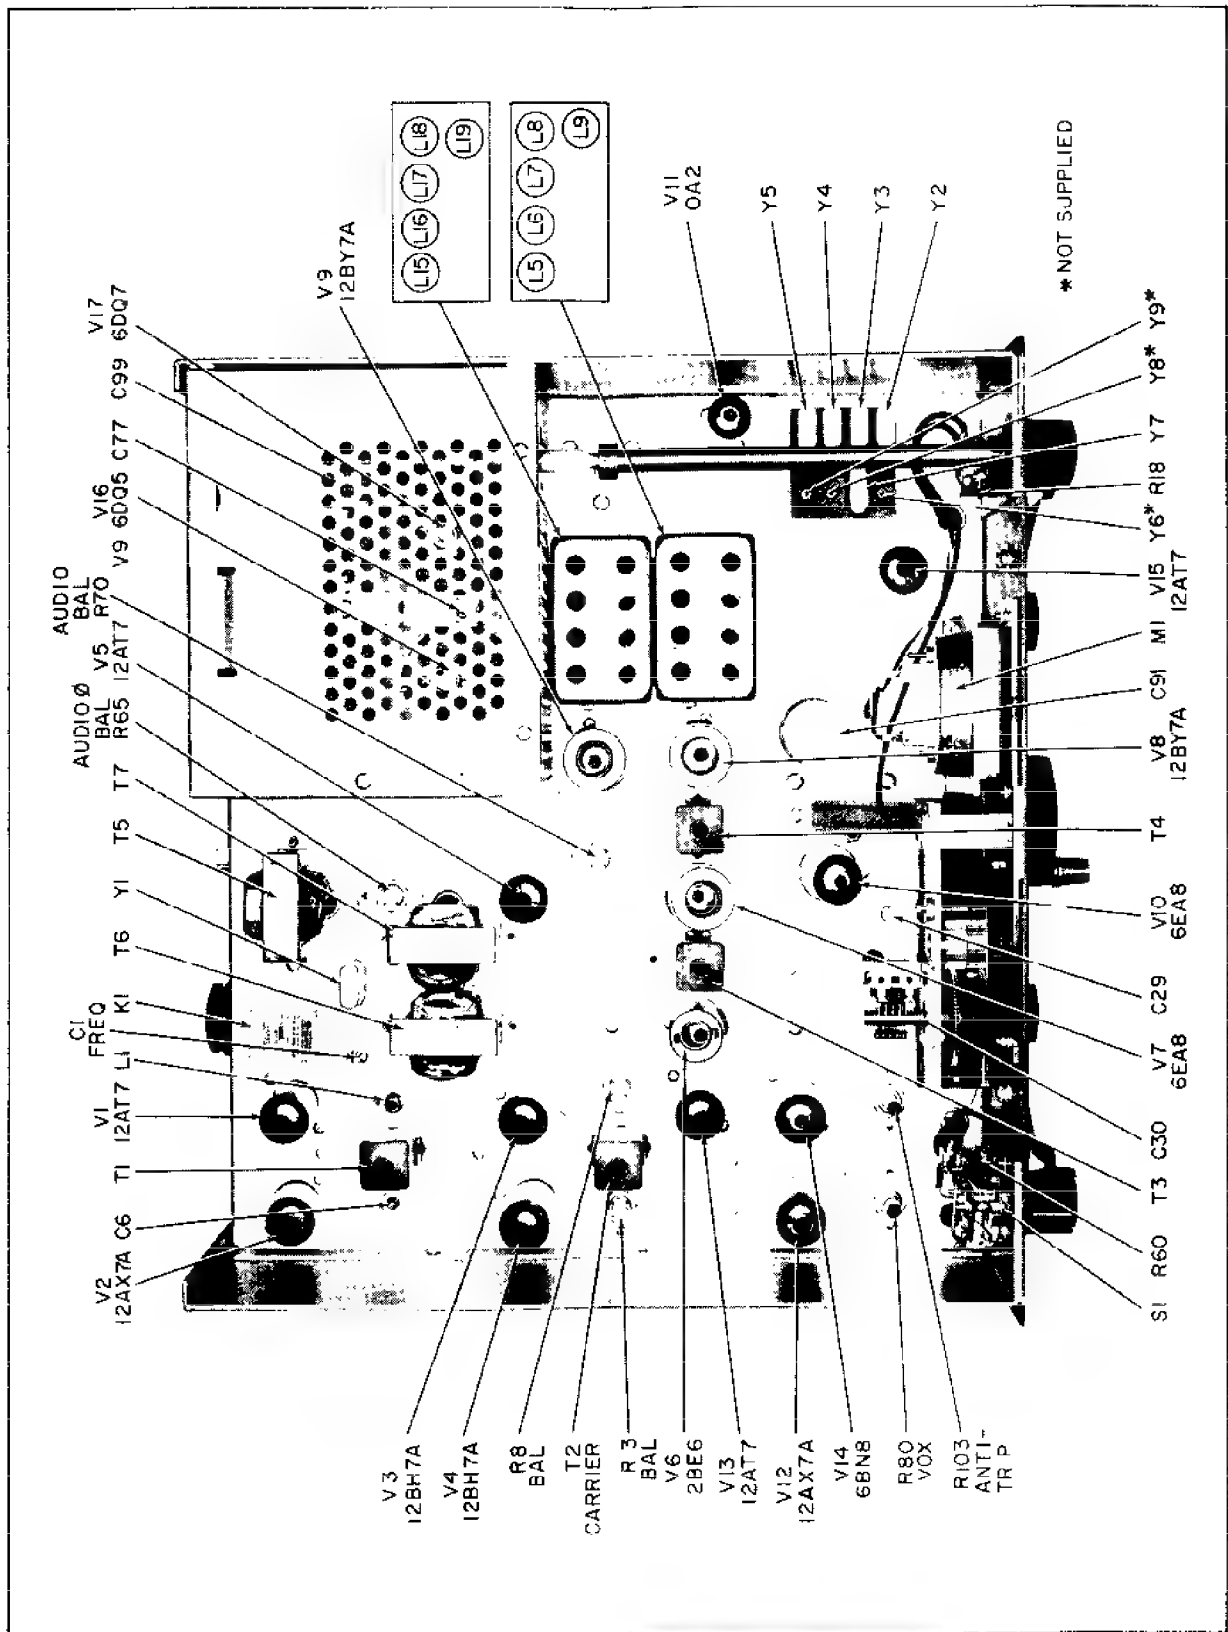
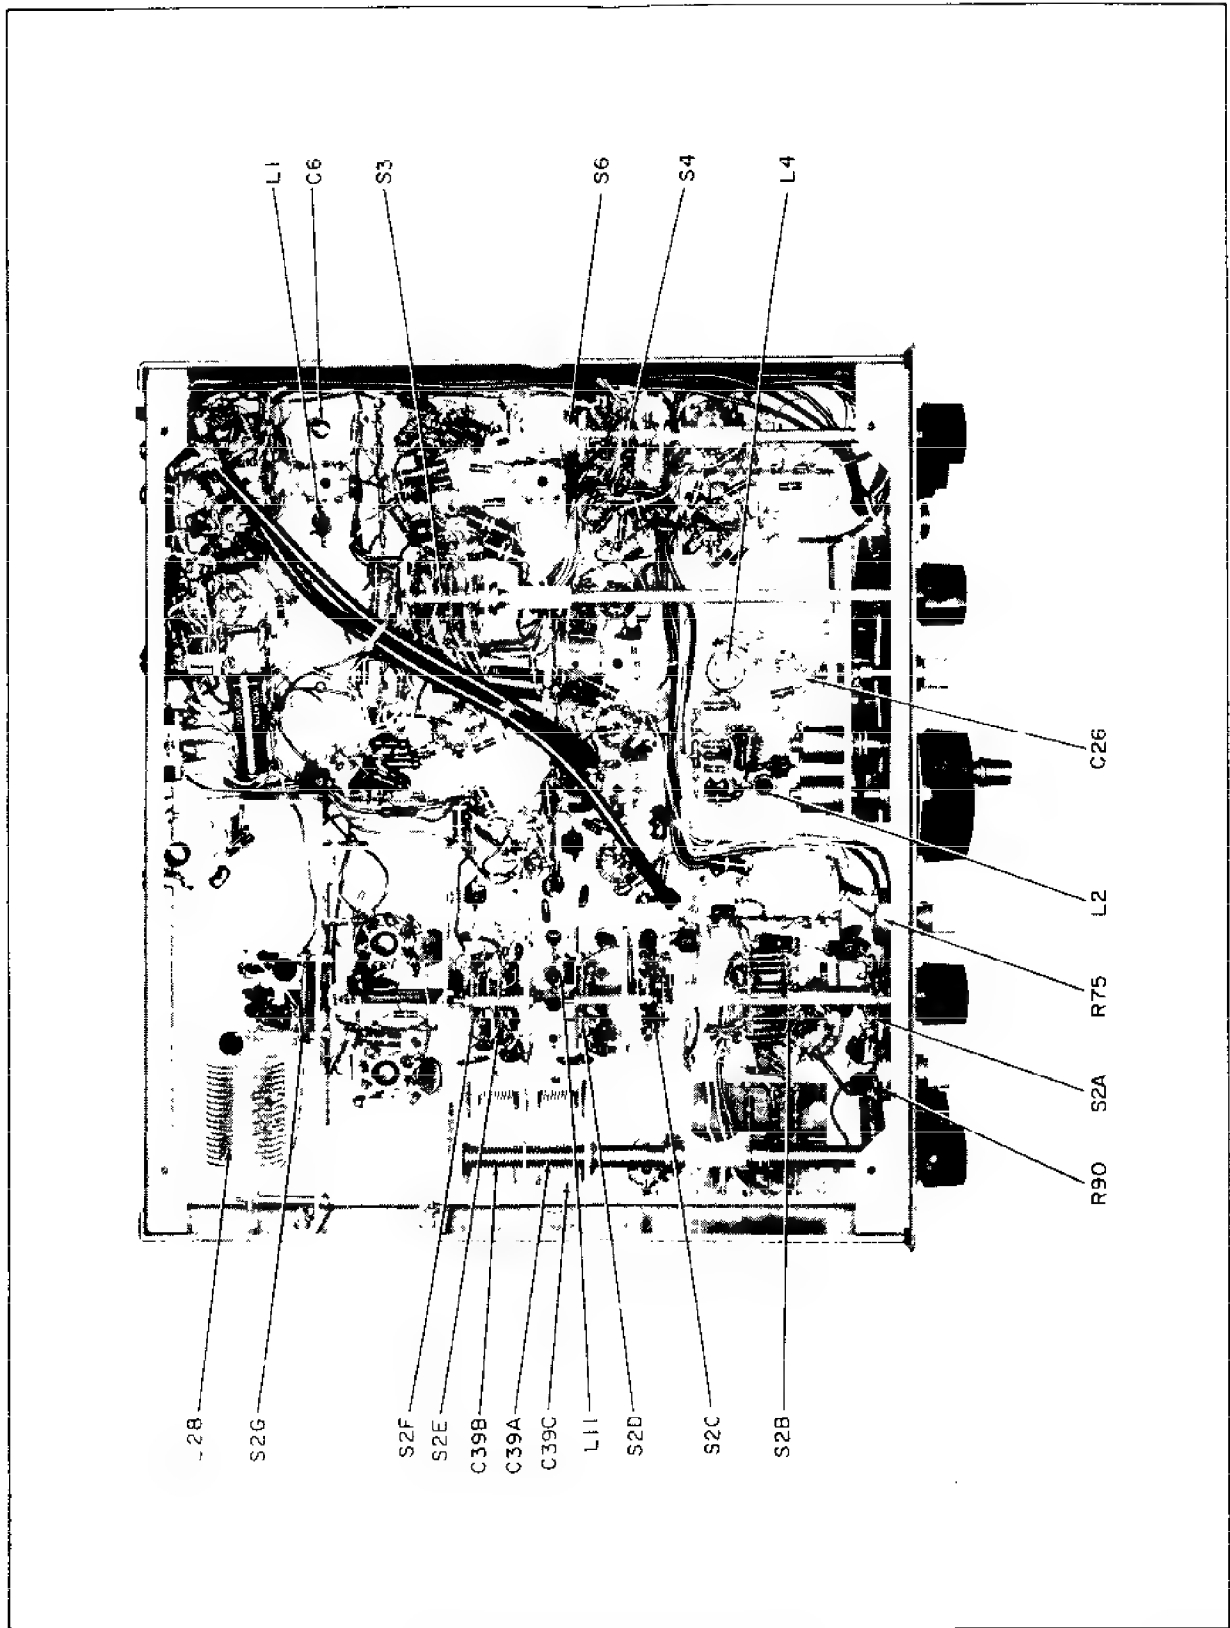

Figure 14. Top Chassis View Showing Component Locations
Figure 15. Bottom Chassis View, Showing Components
13. Carefully adjust warping trimmer C1 in the HT-44 for zero beat. This trimmer is located near the top, left, rear corner of the chassis. (See figure 14.)
Do not make any adjustments unless the operation of this transmitter is fully understood and adequate test equipment is available. Refer to figures 14 and 15, the top and bottom views of the transmitter, for the locations of all adjustments.
3. 10-Meter Alignment. - Tune the Signal Generator to 28.0 MC. Set the FINAL TUNING control to the low end of the 10-meter segment (approximately 8 on the inner scale) and the DRIVER TUNING control also to the low end of the 10 meter segment (approximately 8 on the inner scale). Increase the signal generator output level until a small indication is noted on the HT-44 RF output meter. Tune the FINAL TUNING control for maximum output indication. Adjust the cores of coils L5 and L15 (see figure 14 for location) for maximum output, reducing the signal generator output level as required to keep the meter reading at half-scale or less. Set the signal generator to 29.7 MC. Set the FINAL TUNING control to the high end of the 10-meter segment (approximately 9-1/2 on the inner scale) and set the DRIVER TUNING control to the high end of the 10-meter segment (approximately 9-1/2 on the inner scale). Adjust trimmer capacitor (C39C) located on the side of C39A (see figure 15) for maximum output while slightly rocking the DRIVER TUNING control. Return the signal generator to 28.0 MC and repeat the above alignment until tracking is accomplished. (NOTE: Trimmer C39C should not be readjusted on the other bands.)
4. 15-Meter Alignment. - Tune the signal generator to 21.0 MC and set the FINAL TUNING control to the low end of the 15-meter segment (approximately 7-1/2 on inner scale). Set the DRIVER TUNING to the low end of the 15-meter segment (approximately 7 on the inner scale). Increase the signal generator output level until a small indication is noted on the RF output meter and adjust the FINAL TUNING control for maximum output, reducing the signal generator output level as required to keep the meter at half-scale or less. Adjust the cores of coils L6 and L16 (see figure 14 for location) for maximum output, reducing the signal generator output as required to keep the meter at half-scale or less.
7. 6.5-MC Trap Adjustment. - While on the 40-meter band, set the signal generator to 7.0 MC and adjust the FINAL TUNING and DRIVER TUNING controls for maximum output. Without changing the FINAL TUNING or DRIVER TUNING, reset the signal generator to 6.5 MC and increase the signal generator output level until a small indication is noted on the RF output meter. Adjust the 6.5-MC trap core, L11 (see figure 15 for location) for minimum output, increasing the signal generator output as required. A slight readjustment of L8 may be required after this adjustment.
Proceed as follows: Set the CAL. ADJ. trimmer to mid-range (dot up). Set the OPERATION switch to CAL. Set the BAND SELECTOR to 3.5 MC (80-meter). Tune the receiver to 3.5 MC on the 100-KC marker signal (BFO off). Set the HT-44 TUNING CONTROL (dial) to the red 500 (3.5 MC). Carefully adjust trimmer C29 for zero beat (see figure 14 for location).
If the dial error progressively increases in the same direction with the high-frequency end running out more than 3000 CPS, at this end, both L4 and C29 should be adjusted. Proceed as follows: Set the TUNING dial to 4.0 MC (red 1000) and the Receiver to 4.0 MC. Adjust the slug of L4 (see figure 15 for location) to zero beat. Set the TUNING dial to 3.5 MC (red 500), the receiver to 3.5 MC, and adjust C29 for zero beat. Repeat the adjustments at 4.0 MC and 3.5 MC until both points are on frequency.
Remove V15 (12AT7) from its socket to disable the heterodyne oscillator signal. Connect the probe of the RF voltmeter to the grid of the Second Mixer (pin 2 of V8). Set the FUNCTION switch to CW and the OPERATION switch to MOX. Set the BAND SELECTOR to any 10-meter segment. Set the TUNING control dial to 250 and advance the RF LEVEL control until a small indication is noted on the RF voltmeter. Adjust the core of the VFO output coil (L2, See figure 15) for maximum reading. Set the TUNING control to 450 on the dial. Advance the RF LEVEL control until approximately 0.5 volt RMS is indicated on the RF voltmeter (HP 410 B or equal). Adjust top and bottom cores of IF transformers T3 and T4 for maximum voltmeter indication, keeping the level below 1 volt to prevent overload and false settings. After the transformers have been adjusted as described, increase the RF LEVEL control until 1 volt is indicated on the voltmeter. Tune the VFO (TUNING) across its range (0 to 500) while watching the voltmeter. The voltmeter should read between 0.8 and 1.0 volt over the entire range of the dial (0 to 500). After completion of this alignment, be certain to replace V15 (12AT7) in its socket.
Adjust the RF LEVEL control for about 60 volts RMS output (60 on the HT-44 RF output meter). Carefully tune the FINAL TUNING control and observe the plate current dip and the output voltage peak. If both occur at the same setting, the amplifier is neutralized. If both do not occur together, adjust the neutralizing capacitor, C77 (see figure 14), in small increments (1/4 to 1/2 turn) until neutralization is accomplished.
When the HT-44 is used as an independent transmitter/exciter, there is normally no need for adjustment of the carrier frequency trimmer C1 (see figure 14 for location). However, when the HT-44 is to be used in conjunction with an SX-117 receiver as a transceiver, the carrier frequency trimmer C1 must be set correctly. For this procedure, see Section VII, TRANSCEIVE (SLAVE) OPERATION.